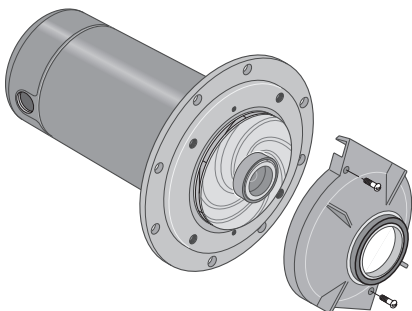

FIGURE 12 - REMOVE DIFFUSER
3. Remove diffuser (Figure 12). The exposed impeller can now be cleaned.